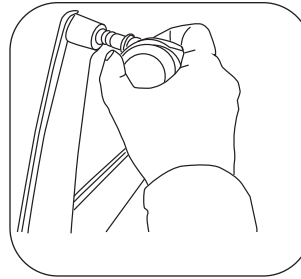

Figure 1
2. Insert the (5) casters firmly into the opening on the stool base (Figure 1)